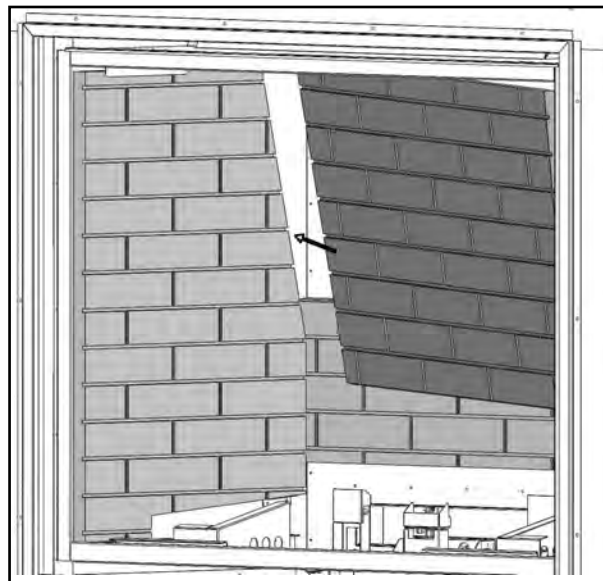

Figure 50: Top Firebox Liner Panel Installed.
- 3) Install the Top Firebox Liner Panel by placing it on top of the Rear Panel and behind the Left Panel (see Figure 50 and 51). Hold it with one hand or have someone else hold it for you while you place the last panel. **WARNING:** If this panel falls from this location it will possibly break or the paint work will become chipped.